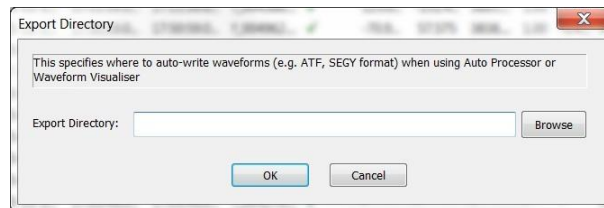

Figure 5-7: Configure Export Directory Dialog
- Configure Export Directory - Specify the export directory for auto-writing waveforms (e.g. ATF, SEG2, and residual locations) (Figure 5-7).